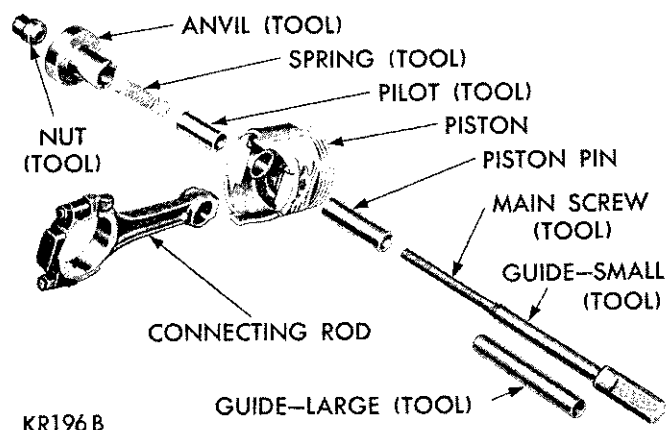

Fig. 40—Tool Arrangement for Installing Piston Pin
(1) Test piston pin fit in the piston. It should be a sliding fit in the piston at 70 degrees F. Piston pins are supplied in standard sizes only.
(2) Lubricate piston pin holes in the piston and connecting rod.
(3) Arrange Tool C-3684 parts for installation of piston pin (Fig. 40).
(4) Install spring inside the pilot and install spring and pilot in the anvil. Install piston pin over main screw.
(5) Place piston, with "front" up, over the pilot so pilot extends through piston pin hole.
(6) Position connecting rod over the pilot which extends through piston pin hole. **Assemble rods to pistons of the right cylinder bank (2, 4, 6, and 8) with indent on piston head opposite to the larger chamfer**
(7) Install main screw and piston pin in piston, (Fig. 40).